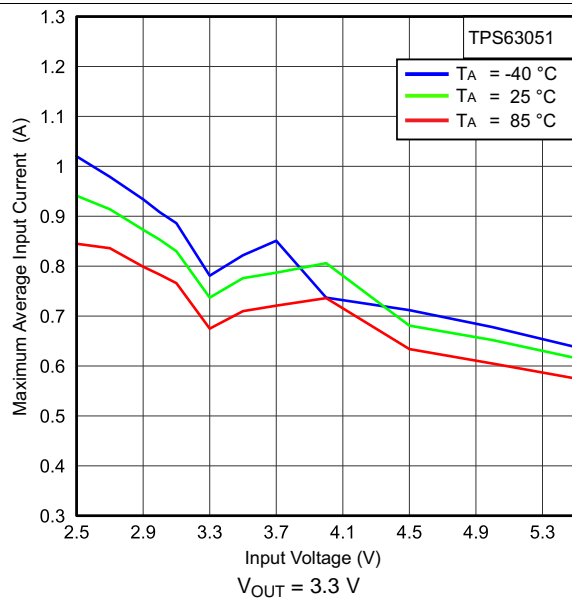
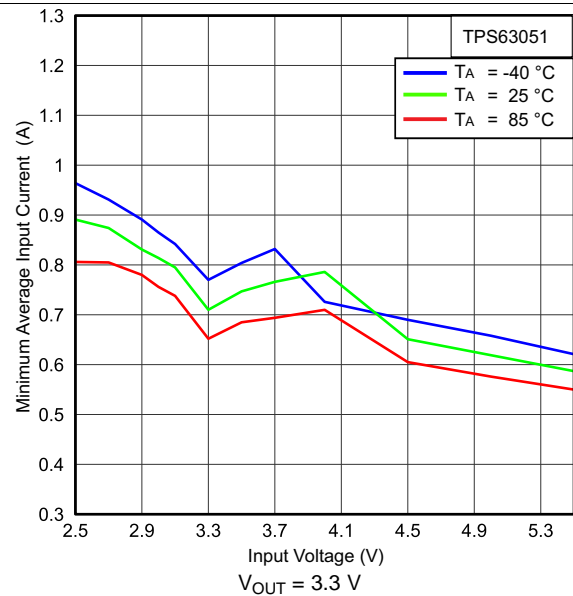

Figure 1. Maximum Average Input Current vs Input Voltage
Figure 2. Minimum Average Input Current vs Input Voltage
(1) For minimum and maximum output current in a specific working point see Figure 1 and Figure 2; and Equation 1 through Equation 4.
(2) Conditions: $T_J = -40^\circ\text{C}$ to 85°C
(3) Conditions: $f = 2.5\text{ MHz}$, $L = 1.5\text{ }\mu\text{H}$, $C_{OUT} = 10\text{ }\mu\text{F}$
The TPS6305x devices have an internal user programmable current limit that monitors the input current during start-up. This prevents high inrush current protecting the device and the application. During start-up the input current does not exceed the current limit that is set by I_{LIM0} pin and I_{LIM1} pin. Depending on the logic level applied at these two pins, switching between four different current limit-levels is possible. The variation of those values over input voltage and temperature is shown in Figure 1 through Figure 2. Adjusting the soft-start time further using the soft-start capacitor is possible.
Given the curves provided in Figure 1 through Figure 2, calculating the output current in the different condition in boost mode is possible using Equation 1 and Equation 2 and in buck mode using Equation 3 and Equation 4.
- I_{IN} = Minimum average input current (Figure 2 to Figure 2)